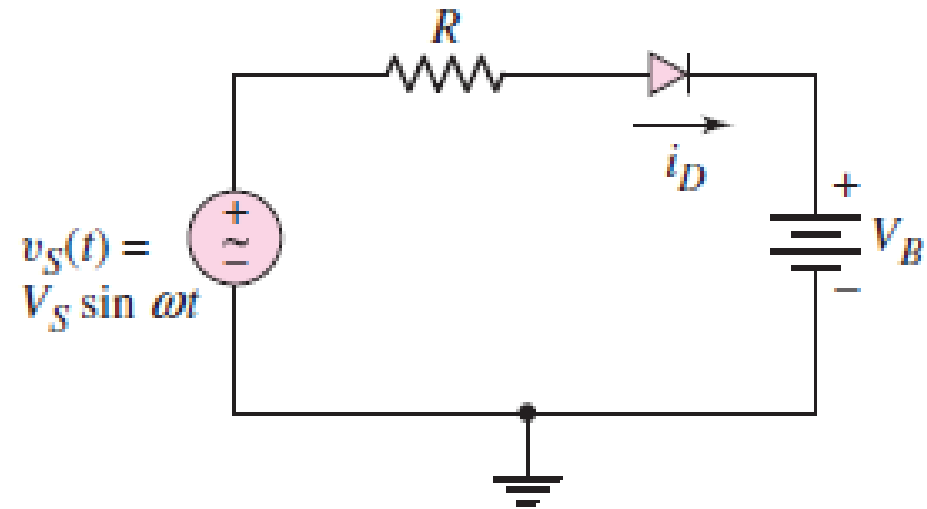

Figure 2.4 (a)
- Consider the circuit shown in Figure 2.4 (a).
3. The fraction of the cycle over which the diode is conducting (ON).